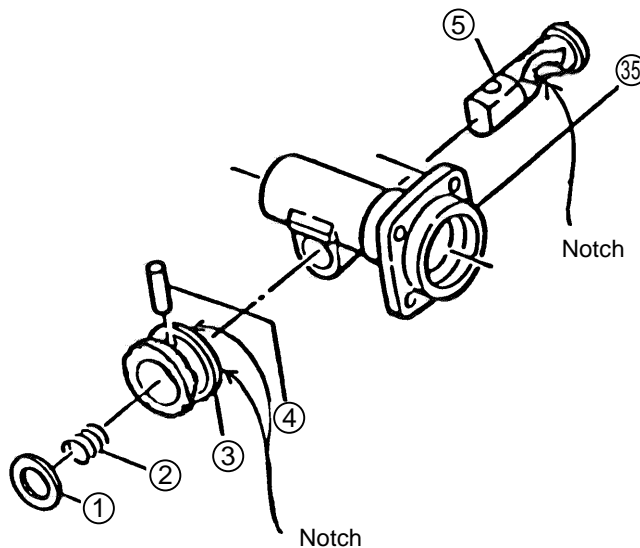

Fig. 8
Carefully ensure that the notched portions of the Stop Lever ⑤ and Knob (A) ③ are properly aligned and assembled as shown in Fig. 8 above. If they are not properly assembled, the bull point cannot be inserted properly. Apply No. 29 Power Tool Grease to the Stop Lever prior to assembly.